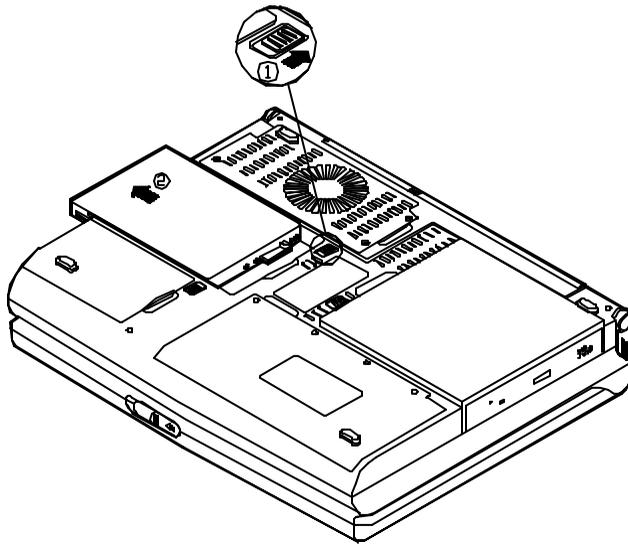

Figure 2-13
4. Press the latch in the illustrated direction and slide the floppy diskette drive out of the Notebook (Figure 2-13).